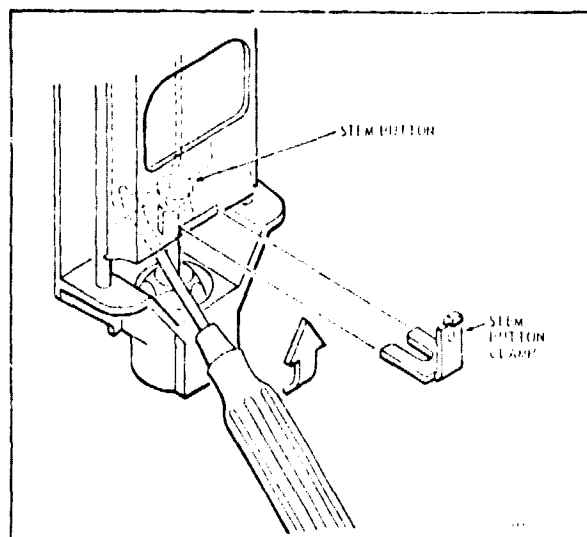

FIG. 5—THE STEM BUTTON CLAMP FASTENS THE VALVE STEM TO THE LINKAGE SLIDE MECHANISM.
1. Place a heavy duty screwdriver under the linkage slide and into the slot in the back of the linkage (Fig. 5).